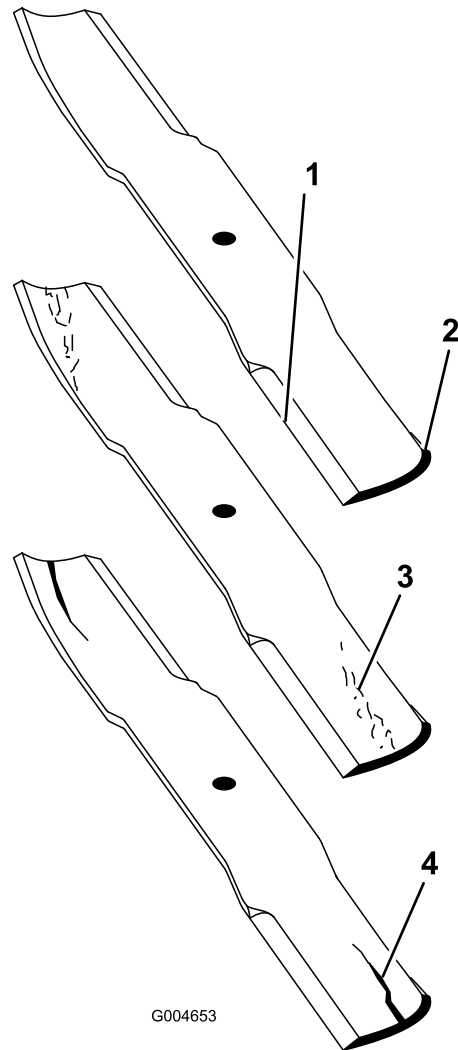

Figure 118
2. Examine the cutting ends of the blade carefully, especially where the flat and curved parts of the blade meet (Figure 118).
Note: Because sand and abrasive material can wear away the metal that connects the flat and curved parts of the blade, check the blade before using the mower. If wear is noticed (Figure 118), replace the blade.